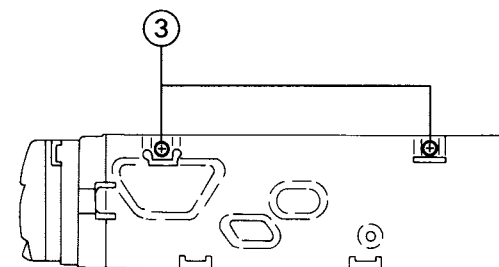

Fig. 4-3
3. After turning the body over to the left side, remove the two screws (3) retaining the top cover (See Fig. 4-3).